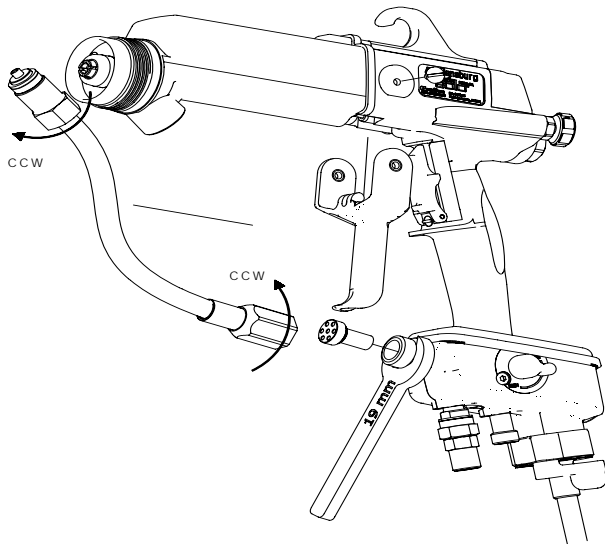

**Figure 48: Power Module Removal**
6. Remove air valve cartridge seal (black) (see Figure 48).